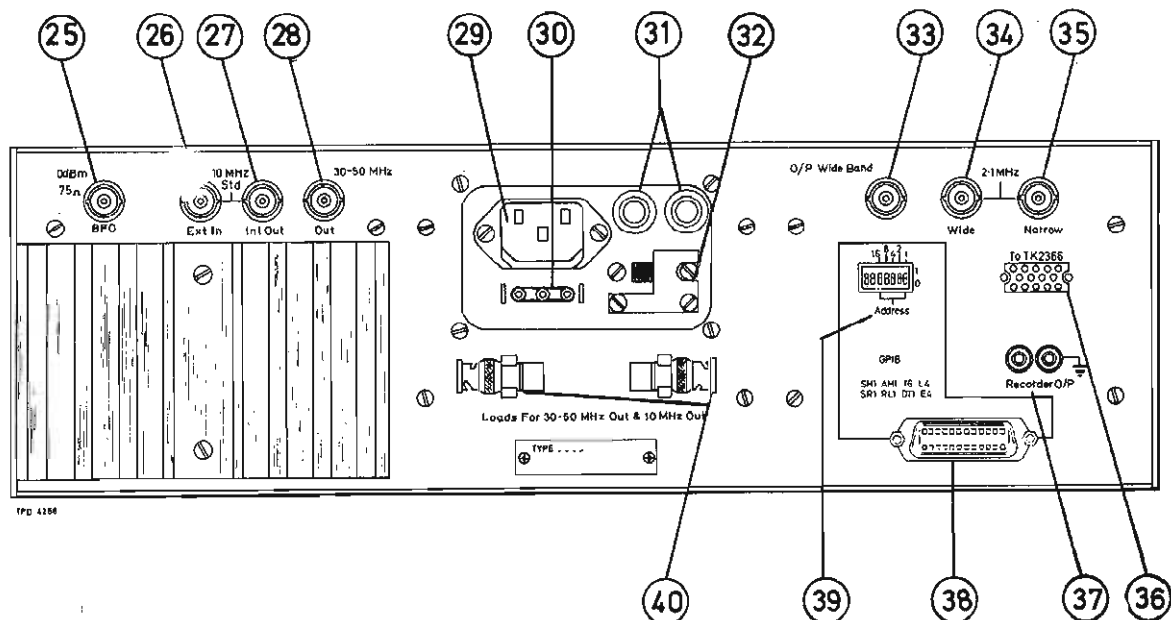

Fig. 4 TF 2357A - Rear panel controls and connectors
14. The receiver rear panel controls and connectors shown in Fig. 4 are as follows:-
(25) BFO socket. With (22) switched to ON, provides a constant level tracking generator output at the frequency setting of the instrument. May be used for frequency response measurements. Impedance 75Ω , level 0 dBm.
(26) 10 MHz STD - EXT IN socket. Enables an external standard to be used in place of the internal one; automatic disabling is achieved by providing a d.c. path of less than $10 \text{ k}\Omega$ in the external connection.
(27) 10 MHz STD - INT OUT socket. Provides the frequency standard for TF 2356. Impedance 50Ω . Must be terminated with load (40) when not in use.
(28) 30 - 50 MHz OUT socket. Local oscillator output for synchronizing TF 2356. Impedance 50Ω . Must be terminated with load (40) when not in use.
(29) AC SUPPLY socket. 3-pin a.c. supply input connector.
(30) BATTERY NOMINAL VOLTS +16.8 -12 V socket. Supply socket for battery.
(31) Supply fuses. 400 mA for 190 to 260 V range, 800 mA for 95 to 130 V range. Versions -305M, -306C are single-fused.